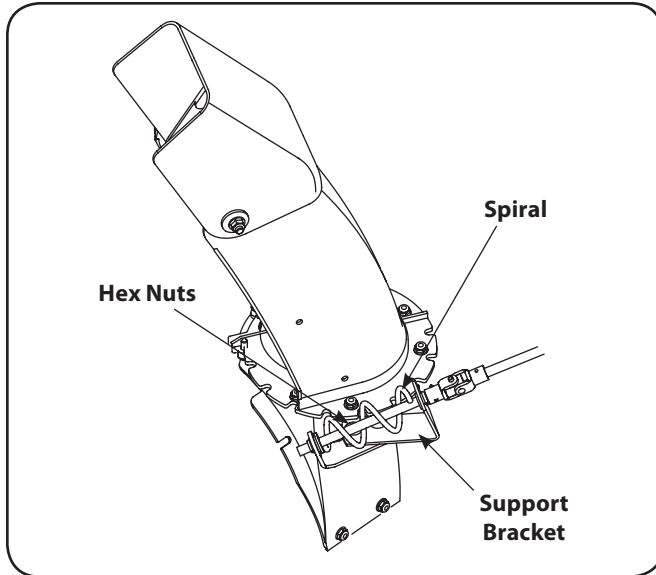

Figure 3-16
1. Loosen, but do NOT remove the two hex nuts which secure the support bracket to the snow thrower housing. See Fig. 3-16.